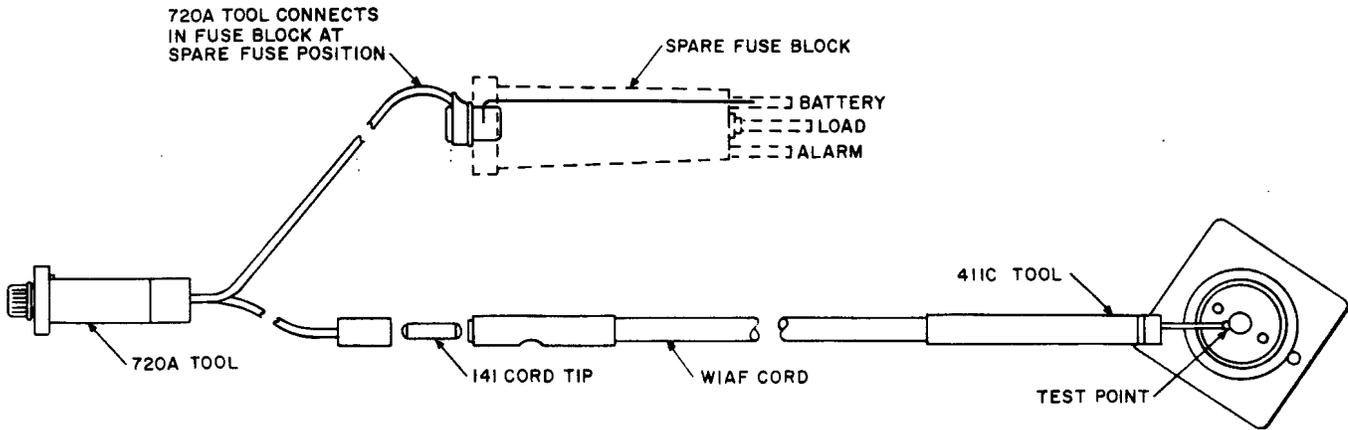

Fig. 3—Fuse Alarm Testing Cord—Tool Connection
- (1) **Warning: Due to possible fuse and/or equipment damage, the former procedure of testing fuse alarms by inserting a 411C tool or a 266C tool (wire burnisher) held in a 265C tool (contact burnisher holder) beside the colored bead on older fuse caps without the slot or aperture should be discontinued. This admonishment pertains to Steps (2) through (8).**
- (2) Prepare the alarm test cord by connecting one end of the W1AF testing cord to the 141 cord tip and 720A battery pickup tool. (The KS-6278 connecting clip may be used to replace the 720A battery pickup tool.) On the opposite end of the W1AF testing cord, connect the 411C test tool. (See Fig. 3.)